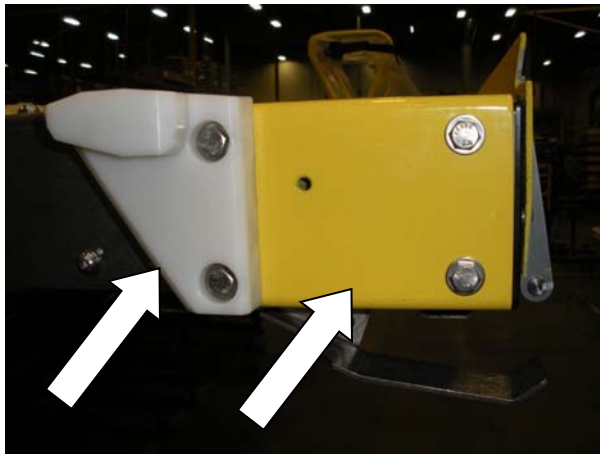

FIGURE 4-15: LH GUIDE BLOCK AND LH PLATFORM ROLLSTOP SWITCH COVER
- 3) Refer to Figure 4-15. Remove four (4) bolts that attach LH Guide Block and LH Platform Rollstop Switch Cover.